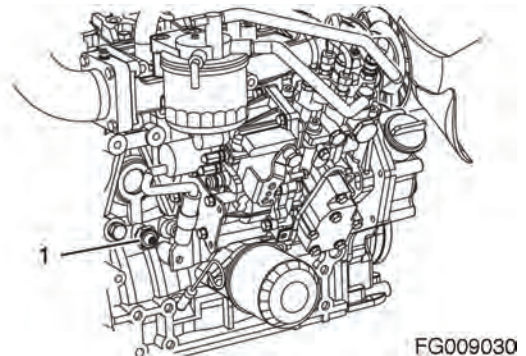

Figure 322
1. Disconnect the wire lead from the oil pressure switch or sending unit (1, Figure 322).